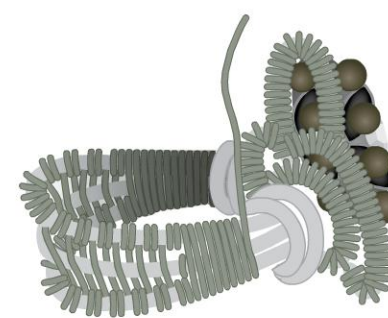

figure 8
- 1 7** Work Weave Pattern 3 in and out the three wires. When the space between the three wires is too narrow to weave, coil around the ring shank as was done in Step 16 (Figure 8).